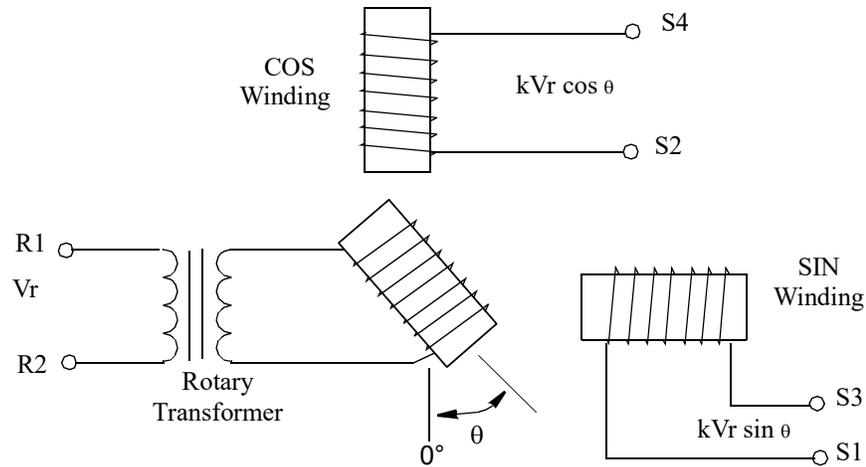

Figure 2-5 Brushless Resolver Control Transformer
The connection arrangement of a brushless resolver control transformer is illustrated below in **Figure 2-5**.
- θ is the rotor angle relative to the reference position shown in **Figure 2-5**.